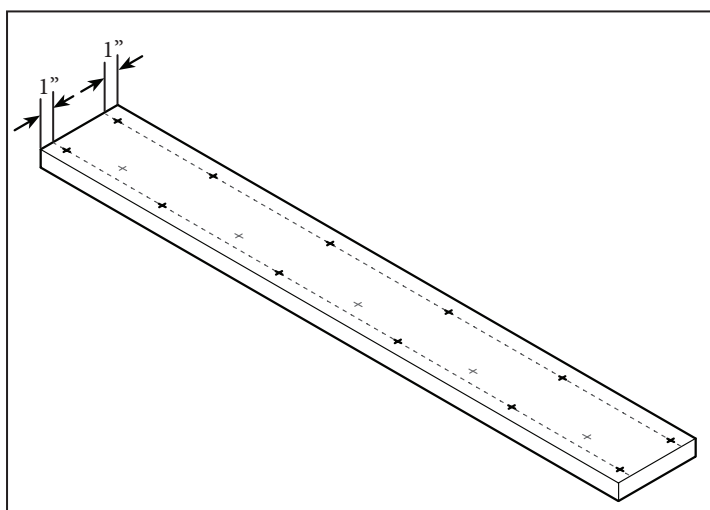

Figure 5
6. Mark the center of the stud onto the header. Mark 1" from the top edge and 1" above the bottom edge (Figure 5).